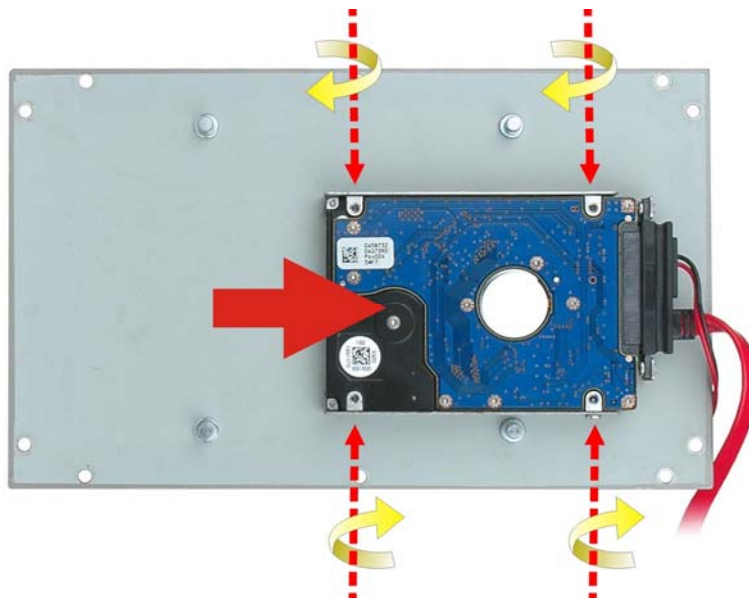

Figure 3-4: HDD Installation
Step 3: Attach the HDD to the HDD bracket, and then slide the HDD to connect the HDD to the SATA connector (**Figure 3-4**).
Step 4: Secure the HDD with the HDD bracket by four retention screws (**Figure 3-4**).